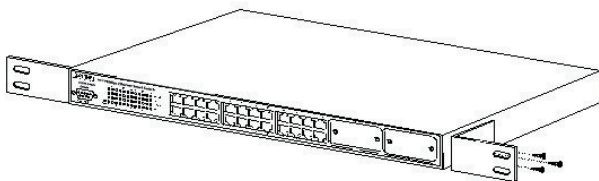

Figure 2-3 Attaching the brackets to the Switch
- Step2: Attach a rack-mount bracket to each side of the switch with supplied screws attached to the package. Figure 2-3 shows how to attach brackets to one side of the switch.